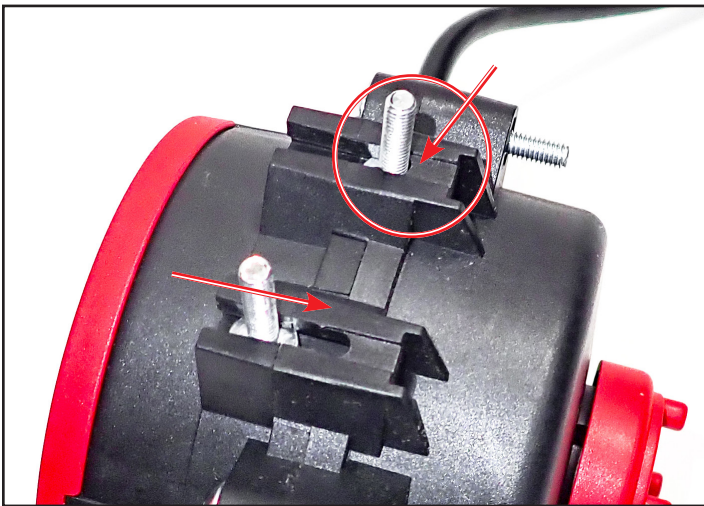

Fig. 6. Be sure the T-bolts are fully seated in the slots.
2. Slide the t-bolts into the replacement motor's slots until the bolts are fully seated. See fig. 6.